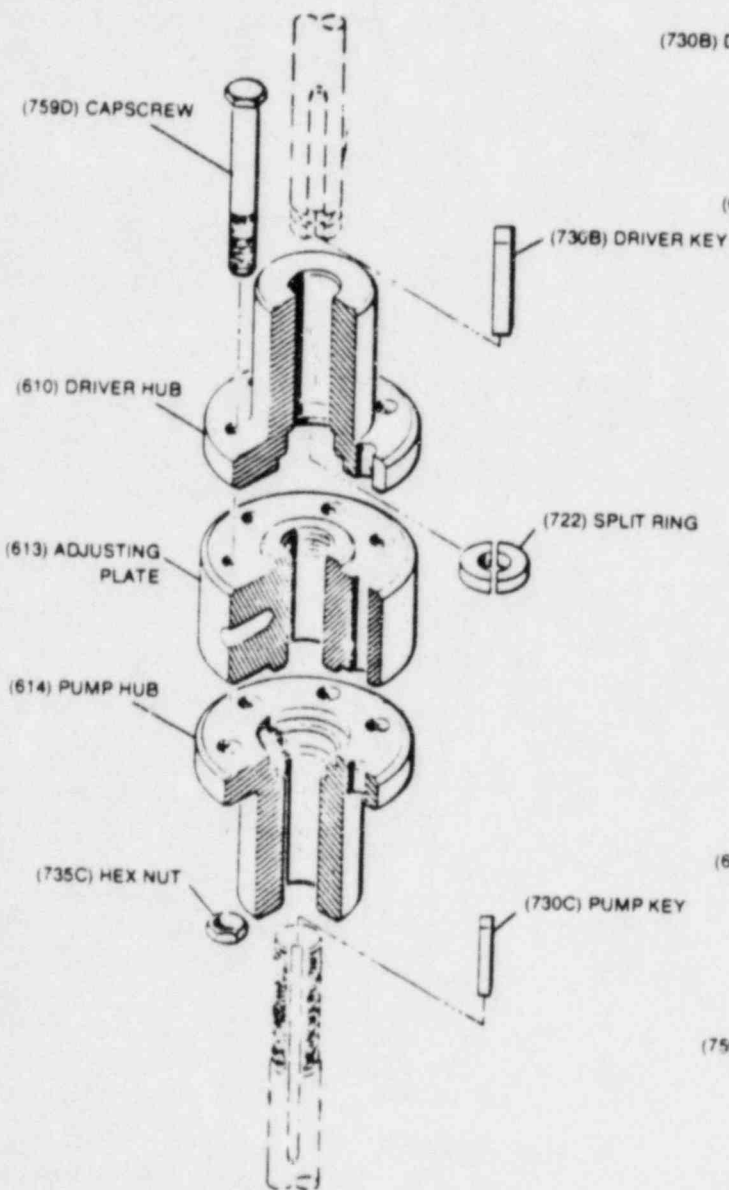
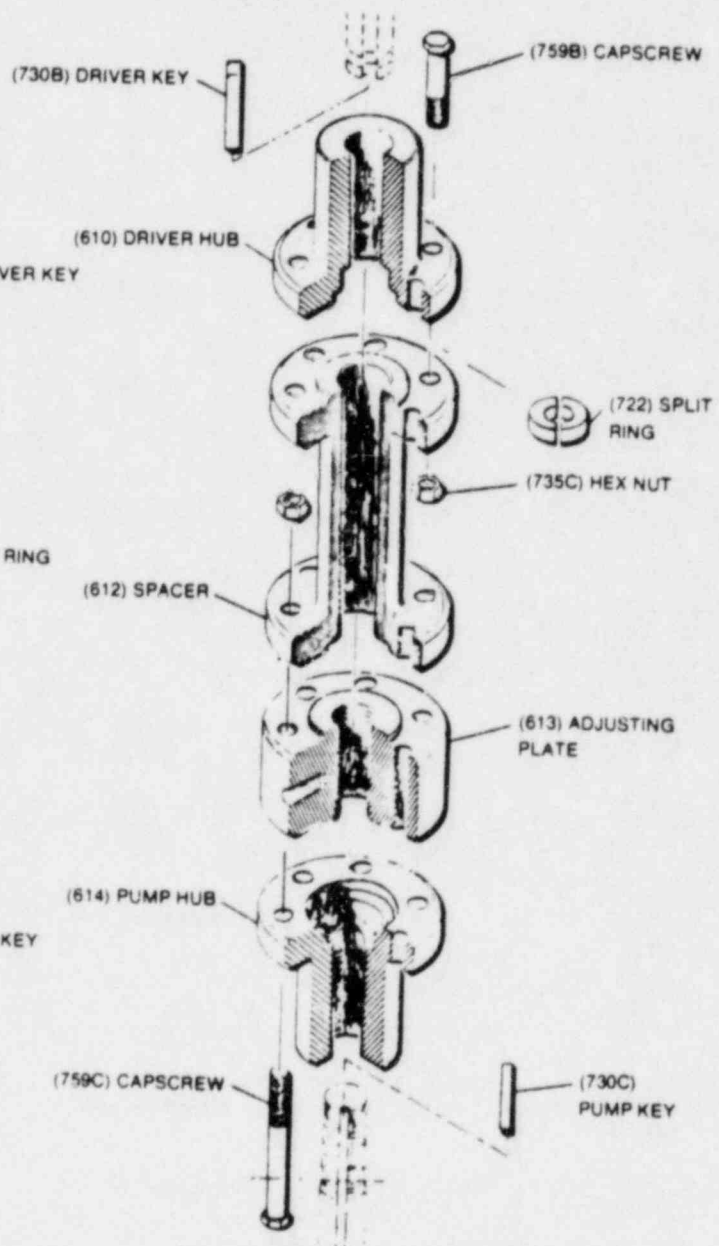

Figure 11-1. FLANGED ADJUSTABLE COUPLING
Figure 11-2. FLANGED ADJUSTABLE COUPLING WITH SPACER
11-2 The coupling between the driveshaft and head shaft may be a nonspacer (see figure 11-1) or a spacer type (see figure 11-2). The latter is used on pumps furnished with a mechanical seal to permit servicing the seal without lifting the driver.
J. COUPLING INSTALLATION. (See figure 11-1 or 11-2)
1. Apply a thin film of oil on headshaft key (730C) and insert key into headshaft keyseat.
2. Gently low pump hub (614) over headshaft.
3. Thread adjusting plate (613) flush with top of headshaft.
4. Apply a thin film of oil to key (730B) and insert it into the driver shaft keyseat. Place the driver hub (610) over the driveshaft and key sliding it up the shaft until annular groove is exposed. Install split ring (722) in the groove and slide driver hub down over the split ring to capture it.
5. Install spacer (612) and secure to driver hub (610) with capscrews (759B) and nuts (735C).
11-4 IMPELLER ADJUSTMENT. Impeller adjustment is identical for motors and right angle gear drives. Adjustment is accomplished by turning adjusting plate (613). (See figure 11-1 or 11-2)
11-6 The coupling shown between the driveshaft and headshaft may be a nonspacer (see figure 11-1) or a spacer type (see figure 11-2). The latter is used on pumps furnished with a mechanical seal to permit servicing the seal without lifting the gear.
**11-8 IMPELLER ADJUSTMENT—OPEN OR ENCLOSED.** (See figures 11-1 or 11-2). Adjustment is accomplished by turning adjusting plate (613).